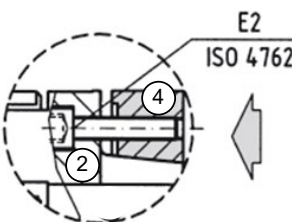
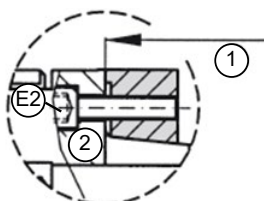

Figure 18: Coupling fixed stop gap ETH100 & 125
Figure 19: Coupling fixed stop 2 ETH100 & 125
- ◆ Loosen clamping screws of coupling halves for the motor/ gear shaft. ETH100&125: Clamp collar (see Figure 18 Pos.4) and clutch hub (see Figure 18 Pos. 2) must be loosened.
- ◆ Slip the coupling half onto the motor / gearbox shaft and align to be flush with the shaft if not stated otherwise by Parker (see Figure 18 Pos. 2).
- ◆ ETH100&125: Tighten the fixing screws (please refer to Figure 18 Pos. E2) crosswise with a torque wrench in 3 turns with 1/3, 2/3 and full tightening torque (please refer to Table 1) until the final tightening torque is attained and the clamp collar touches the coupling half. The dead stop (please refer to Figure 19 Pos. 1) on the coupling half (please refer to Figure 19 Pos. 2) prevents too high pretension of the conical clamp collar and ensures high rotational accuracy.